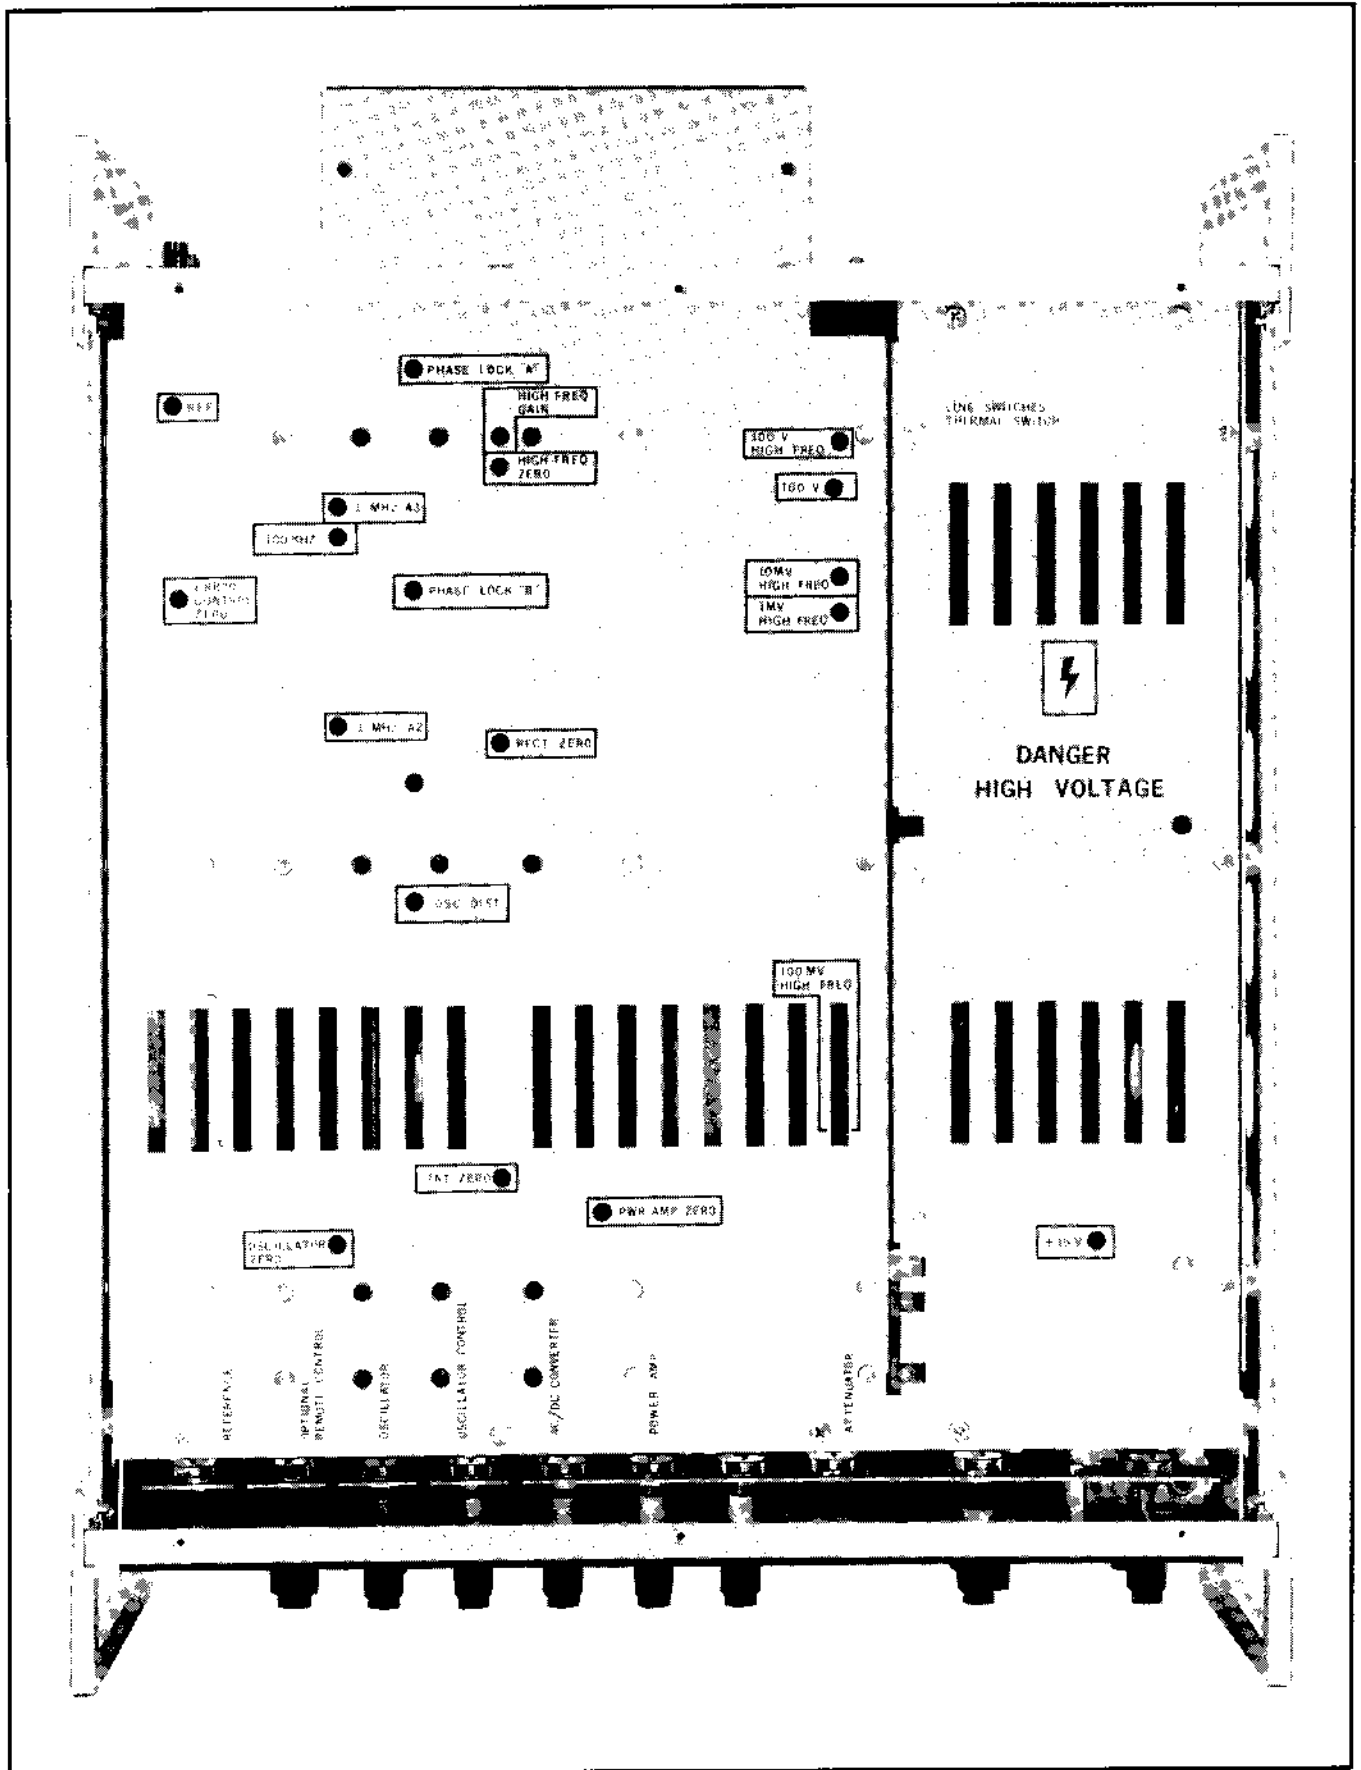

Figure 4-6. LABELED ADJUSTMENT PORTS
*Adjustments may be made through the installed cover at the labeled points, as shown in Figure 4-6.*
- 4-77. The following procedural sub-paragraphs deal with voltage amplitude and linearity for all voltage ranges except the millivolts. The equipment should be connected as shown in Figure 4-2 with both inner covers installed. Adjustments are made through the marked ports in the instrument compartment inner cover as shown in Figure 4-6. Perform the test